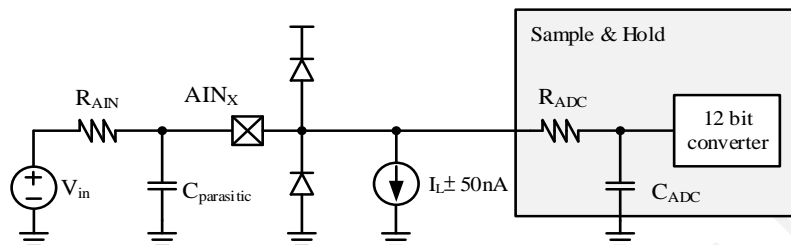

Figure 8 Typical ADC Application Diagram
2. The maximum R_{AIN} value in Table (B) is obtained by referring to C_{ADC} and R_{ADC} in the ADC specification table and Figure 8.